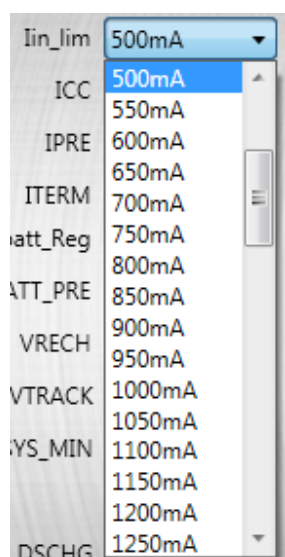

Figure 7: Setting the Input Current Limit
- The default value is 500mA. Set the input current limit so that it meets the input source capacity (see Figure 7).